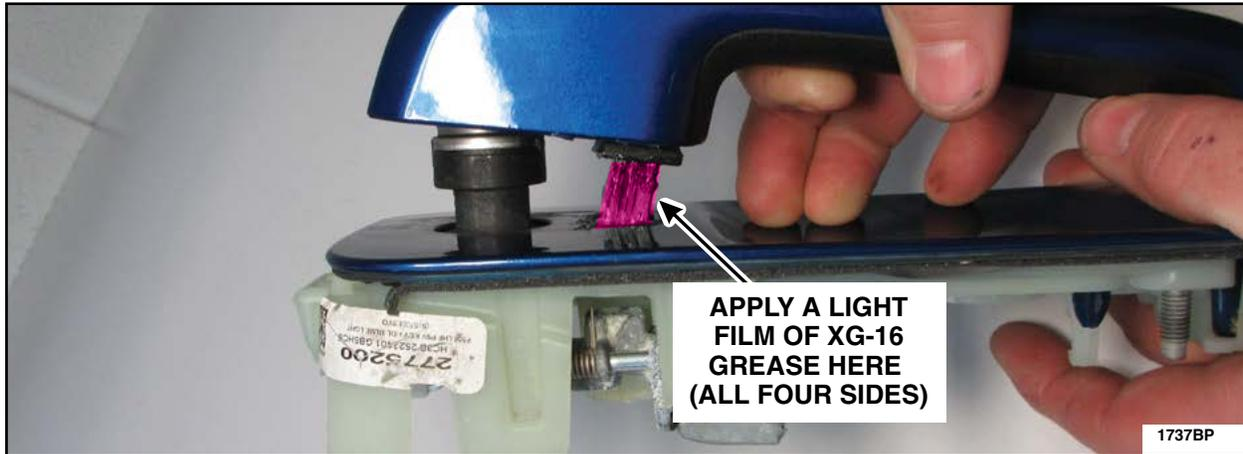

FIGURE 61
34. Using a clean shop towel and isopropyl alcohol, clean the handle plunger then, using a brush, apply a light film of Motorcraft® XG-16 low temperature grease to all four sides of the exterior door handle plunger and to the mechanisms in the areas shown in Figures 61 and 62.